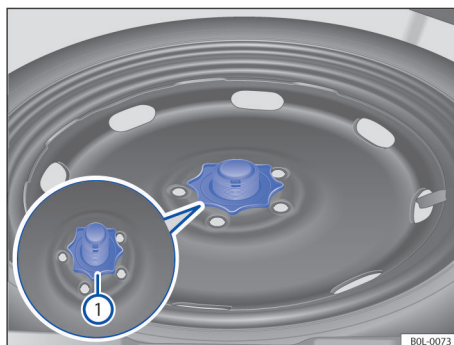

Fig. 154 In the luggage compartment: handwheel for securing the spare wheel or temporary spare wheel;
- Fully unscrew the handwheel in the middle of the spare wheel or temporary spare wheel → Fig. 154 ① anticlockwise